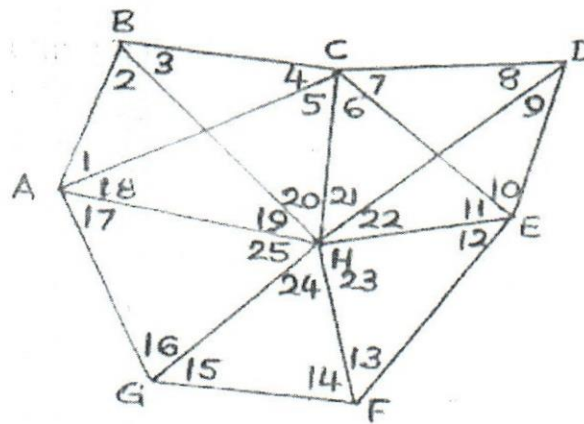

Fig. 7
- (b) Angles marked 1 – 25 in the interlocked triangulation network shown in the Fig. 7 have been measured accurately with the help of a precision theodolite. The length and bearing of the line AB were also measured.